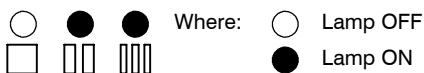

Fig. 8.10
- 15 Press the reset button 7 repeatedly (5 times) until the lamps 10 give the indication as in Fig. 8.10 (gas type mode 2).